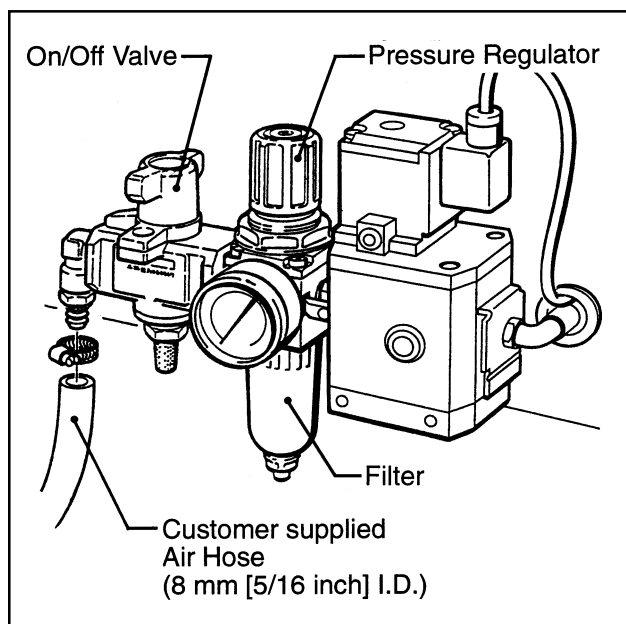

Figure 2-4 – Air Connection
The case sealer requires a 5.2 bar gauge pressure [75 psig] 42 litre/min, @21°C, 1.01 bar [1.5 SCFM] compressed air supply at 27 boxes per minute. As shown in Figure 2-4, an on/off valve, pressure regulator, and filter are provided to service the air supply.
- b. Connect the main air supply line to the inlet side of the on/off valve using the barbed fitting and hose clamp provided. See Figure 2-4. The customer supplied air hose (8 mm [5/16 inch] ID) must be clamped tightly to the barbed fitting.